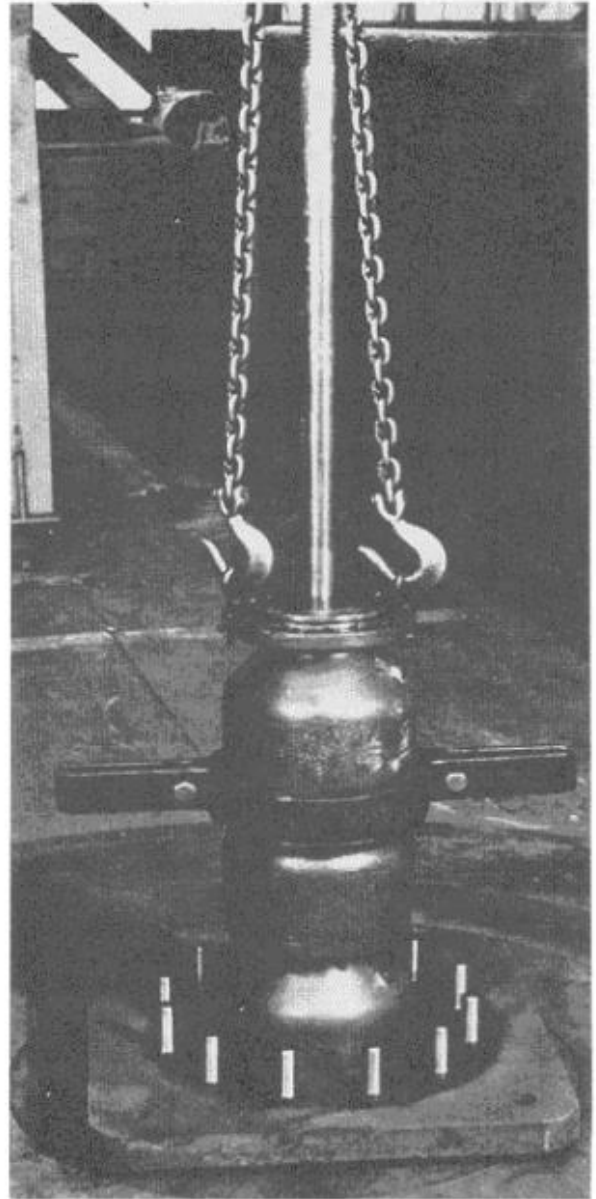

Fig. 5-1. Bowl unit with eyebolts, sling, and elevator clamp attached.
1. If the bowl unit is of the flanged type, place two eyebolts diametrically opposite in the uppermost flange. For a threaded bowl unit, securely fasten and elevator clamp just below the uppermost threaded coupling. Attach a sling to the eyebolts or elevator clamp and pass the looped end of the sling over the hoist hook. (See Fig. 5-1.) While a workman guides the lower end to prevent bumping or dragging, hoist the bowl unit into position over the barrel.
1 Place two eyebolts diametrically opposite in the upper flange of the bowl unit. Attach a sling to the eyebolts, using a suitable hooks or clevises, and pass the looped end of the sling over the hoist hook. (See Fig. 5-1.) While a workman guides the lower end to prevent bumping or dragging, hoist the bowl unit into position